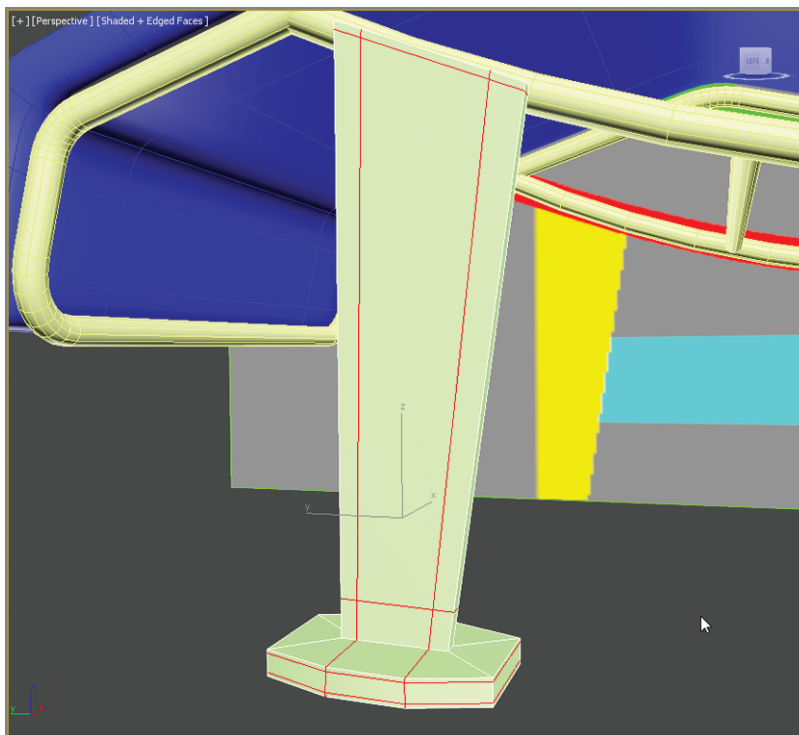

FIGURE 4.35 Add edge loops using SwiftLoop in designated areas.
11. Choose the modeling ribbon > Edit > SwiftLoop, and add edge loops, Shown in Figure 4.35 with edged faces turned on for better visibility.